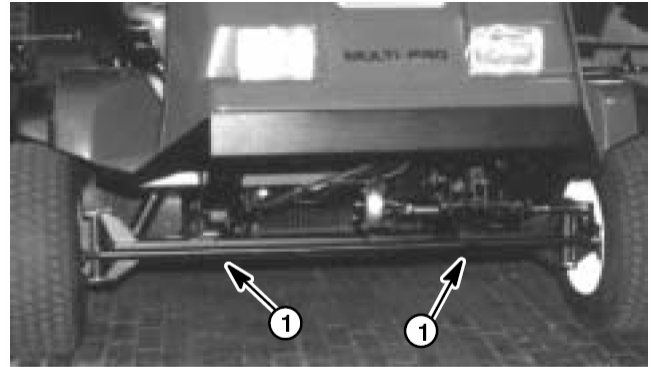

Figure 1
3. Raise the front end and place jack stands under the front axle. (Figure 1)